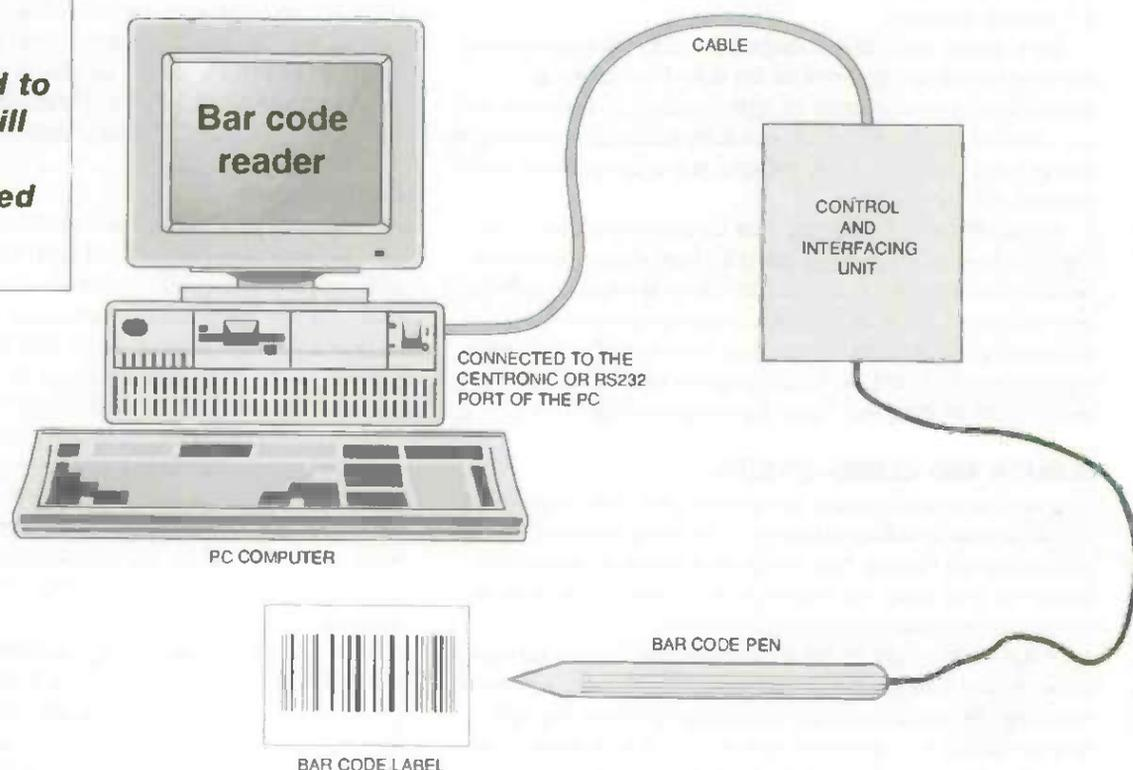

Fig.1. Complete bar code reader (pen-type) system
- (1) It is, of course, no good having a bar code reader without a suitable bar code label to read; this consists of white and dark bars.
- (2) An optical bar code reader converts the printed bar code pattern into electronic signals.
- (3) An amplification/decoding circuit which interprets the signals into numbers (from 0 to 9) or characters (from A to Z).
- (4) An I/O circuit for interfacing to a computer. A complete bar code reader system is illustrated in Figure 1.
This bar code system consists of a bar code reader pen and a box which contains the amplification and interfacing circuits. The complete system is shown in Figure 1.